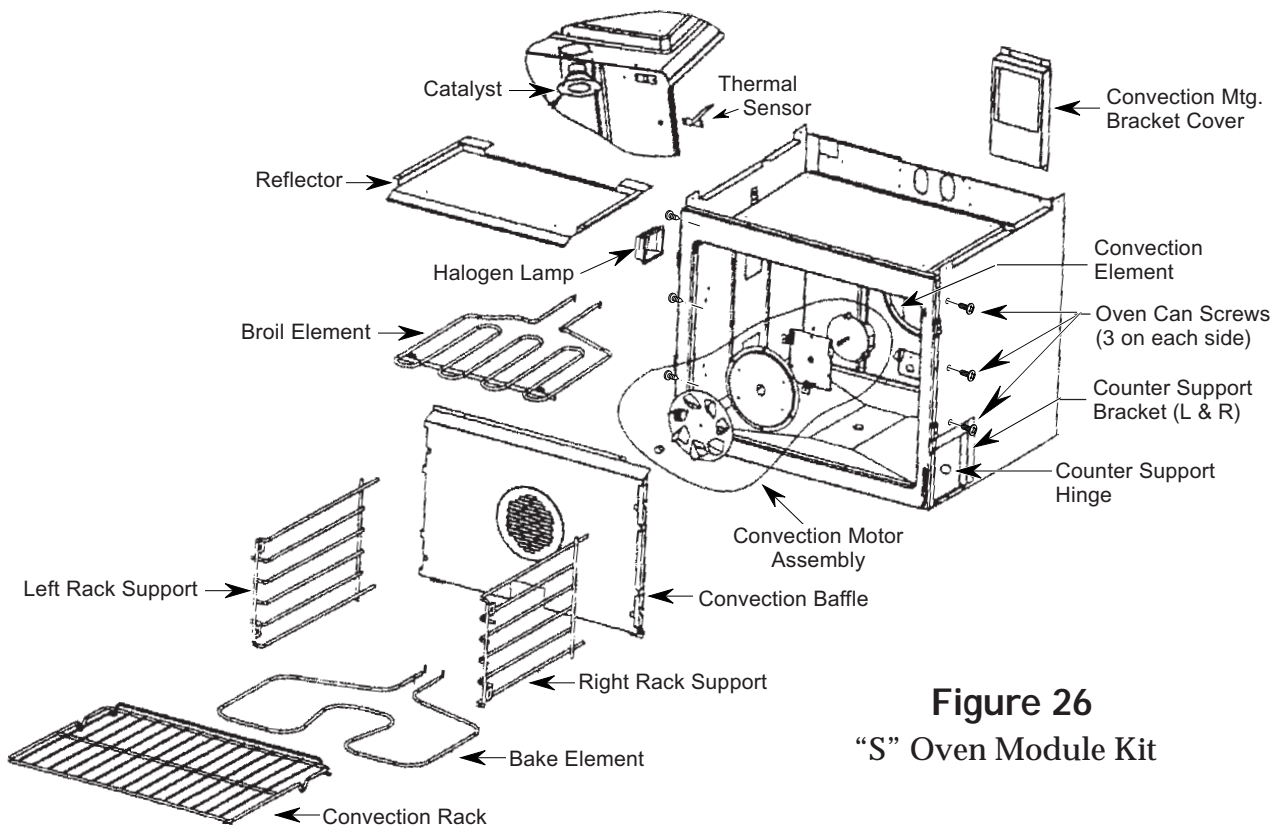

Figure 26
4. Remove the components from the oven, shown in Figure 26. Refer to the sections in this manual for the procedures on removing the components.